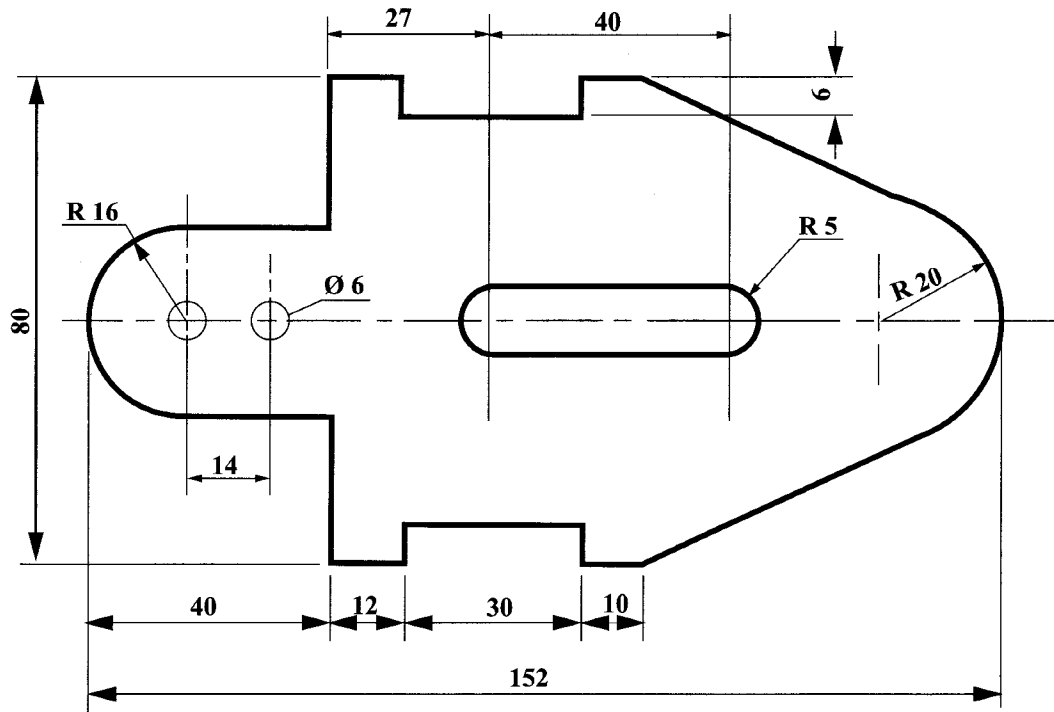

Figure 4. Template
4. Figure 4 shows a template that is to be produced from a piece of mild steel sheet, 90 mm by 160 mm by 3 mm thick.